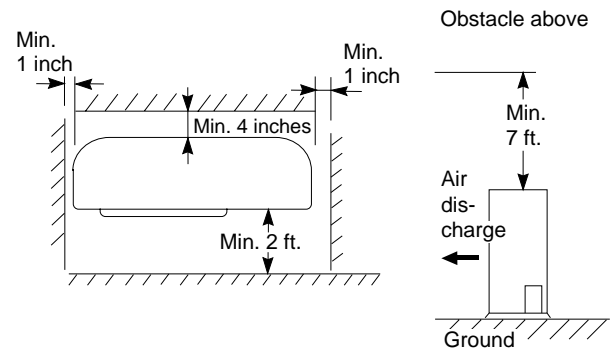

Fig. 4b
- allow enough room around the unit for air intake/ exhaust and possible maintenance. (Fig. 4b)